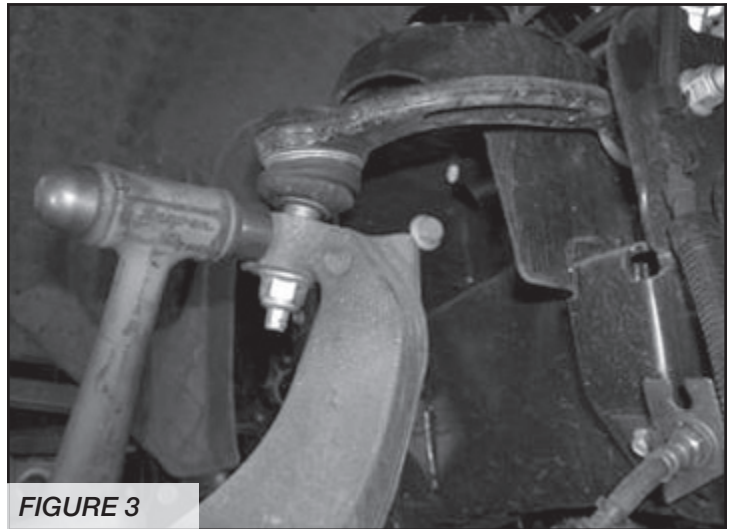

FIGURE 3
7. Remove the upper and lower ball joint nuts. Disconnect the upper and lower ball joints from the steering knuckle by striking the knuckle with a large hammer next to each ball joint on the knuckle to dislodge the ball joints. Use care not to hit the ball joints when removing. Retain hardware and remove the knuckle with the dust shield and the hub. Use extra care not to over extend the C.V. axle shaft when removing the knuckle. **SEE FIGURE 3**